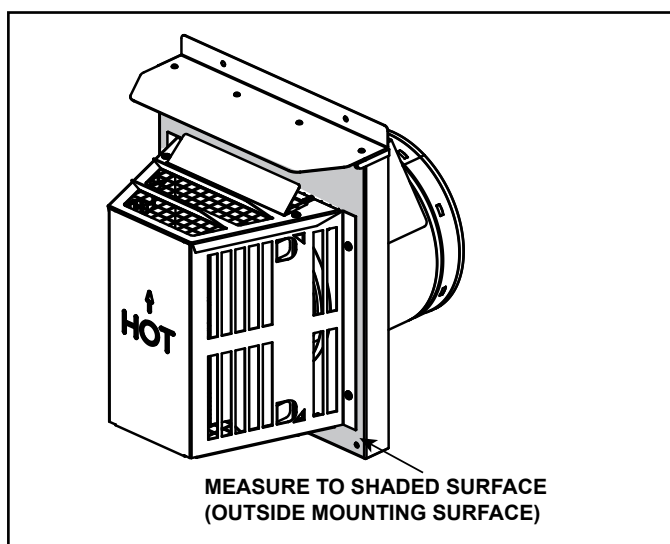

Figure 4.12 Measure to Outside Mounting Surface
- Horizontal terminations are measured to the outside mounting surface (flange of termination cap). See Figure 4.12.